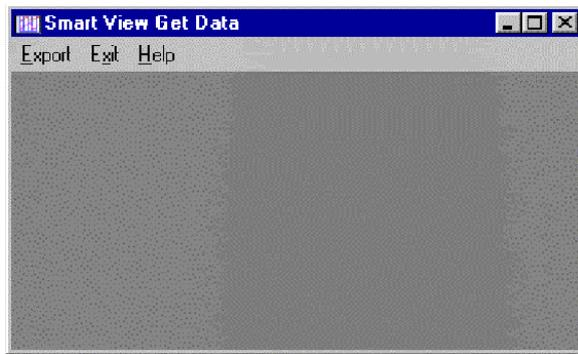

Figure 3 Getdata Program Opening Screen
2.1.1 Menu. The Getdata program has three menu items on the Main Menu Bar at the top of the screen as shown in Figure 3. These menu items are: